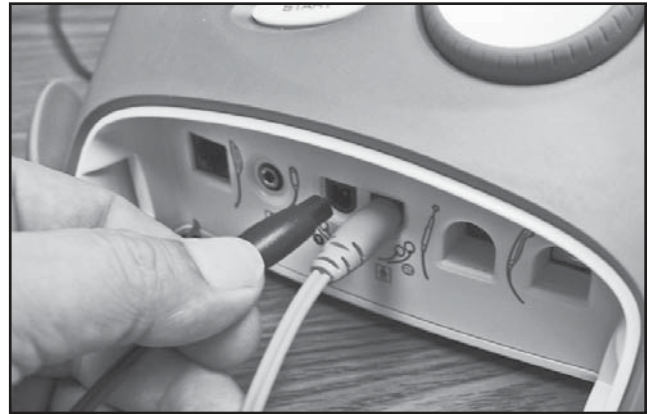

FIGURE 5.3
1. Install known good Lead Wires to Channels 1 and 2 on the system or Channels 3 and 4 on the Channel 3/4 Electrotherapy Module. **See Figure 5.3.**